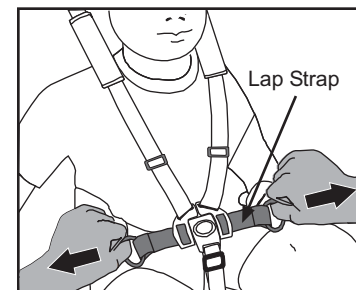

Fig. 21 Tighten Lap Straps.
- Tighten lap straps. Adjust lap straps to fit snug and be comfortable (Fig. 21).